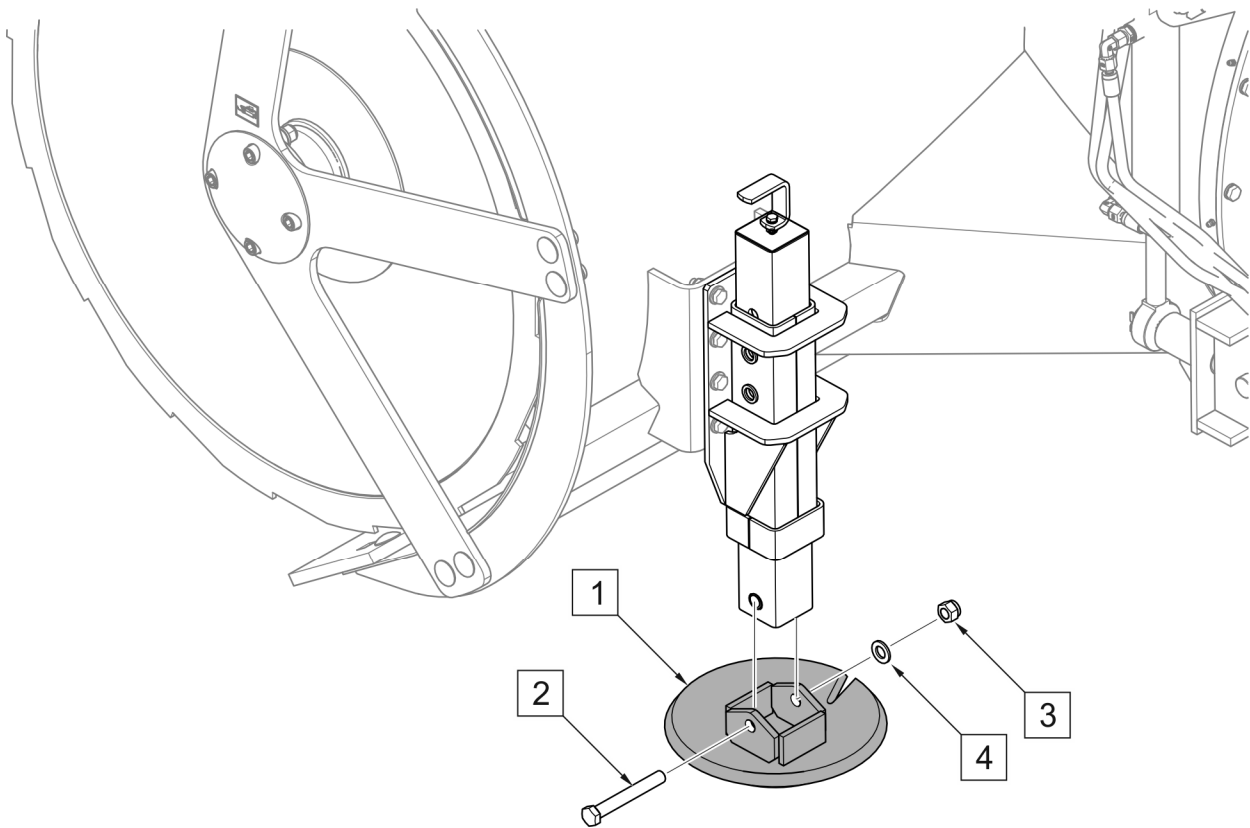

FIGURE 5.4 Skid replacement
Excessively worn or damaged slides must be replaced with new ones. In order to do this raise the snow blower and support with sufficiently stable and strong supports. If the machine is hitched and raised on the linkage, protect it from falling and immobilise the carrying vehicle (turn off the engine and engage the parking brake.) Undo the nuts (4), remove the bolts (3) mounting the skid (1) to the frame (FIGURE 5.4). The list of skid elements with catalogue numbers is shown in TABLE 5.3.